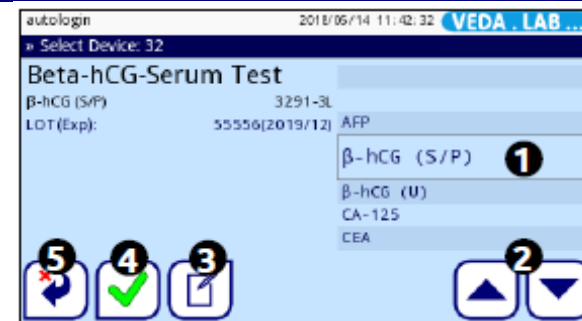

Figure 14 : The **Select Device** screen.
- 2 In the **Select Device** screen that pops up, use the up and down arrow keys (labelled 2 in *Figure 14*) to move the cursor bar over the assay device type that you would like to use.
Key to Figure 14: